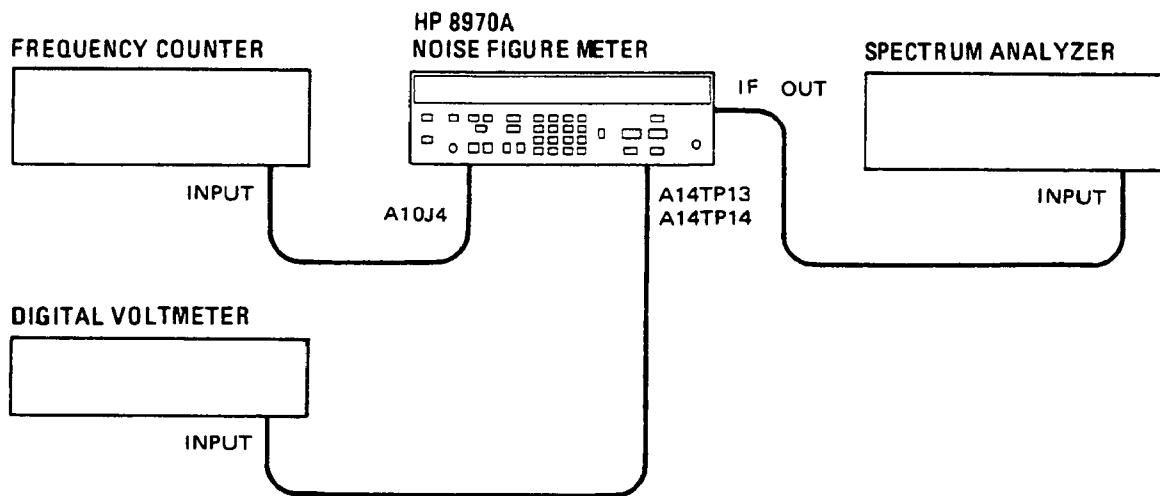

Figure 5-7. Frequency Cal RF Detector and First LO Offset Adjustment Setup
3. Connect the equipment as shown in Figure 5-7. Connect the voltmeter high input to FREQ CAL DET IN, A14TP13, and the low input to GND, A14TP14.